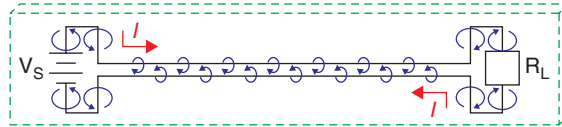

Figure 6-5 Closed loop circuit with low loop inductance.
If on the other hand we arrange the circuit as shown in Fig. 6-5, we can see from Eq. (5) that the loop inductance will be less since there is less volume. If you notice the direction of the arrows (the magnetic fields) you can see that the source current and the return current magnetic fields oppose each other, thereby reducing the flux and inductance.